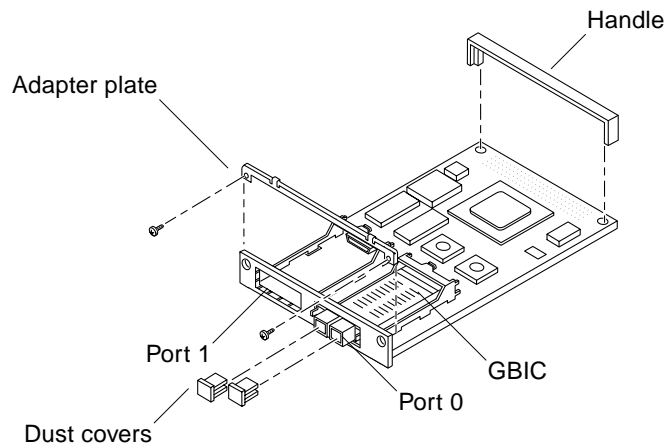

FIGURE 1-1 Sun StorEdge SBus FC-100 Host Adapter
1. Pull the two dust covers out of the gigabit interface converter (GBIC) connectors (FIGURE 1-1).
3. If necessary, remove the adapter plate by removing the two Phillips screws shown in FIGURE 1-1.
1. **Unwrap the GBIC and pull out the dust covers (FIGURE 1-1 on page 1-3).**